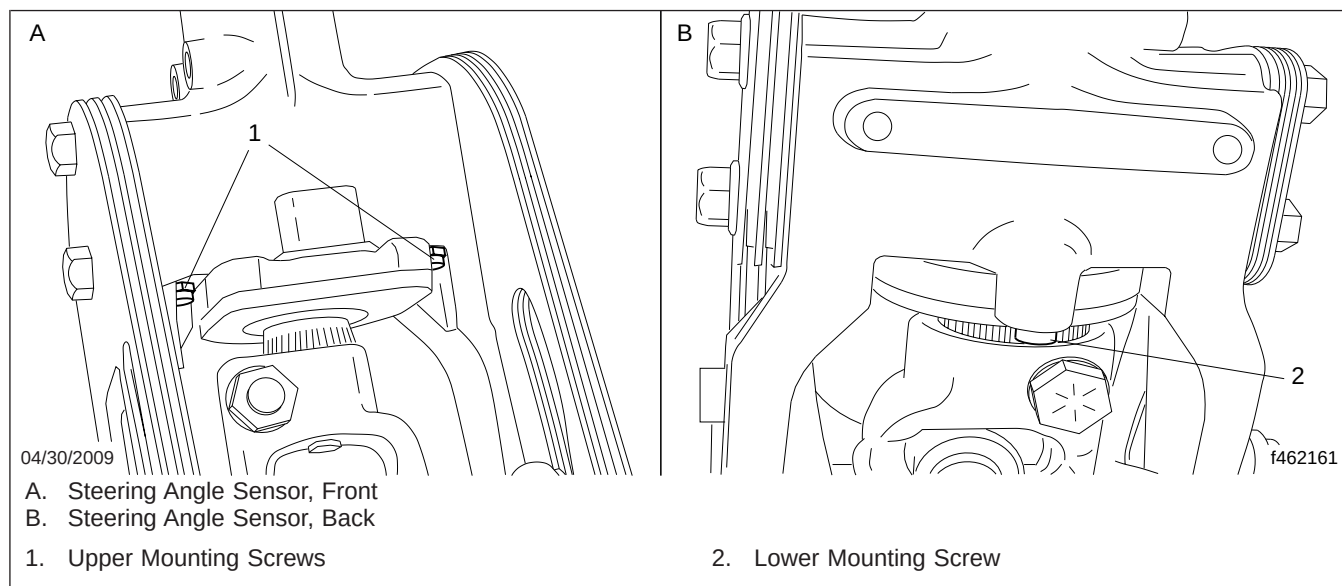

Fig. 3, Steering Angle Sensor
5. Remove the 3 screws (two upper, one lower) holding the steering angle sensor to the steering column. See Fig. 3. Discard the 3 T20 screws and remove the steering angle sensor.